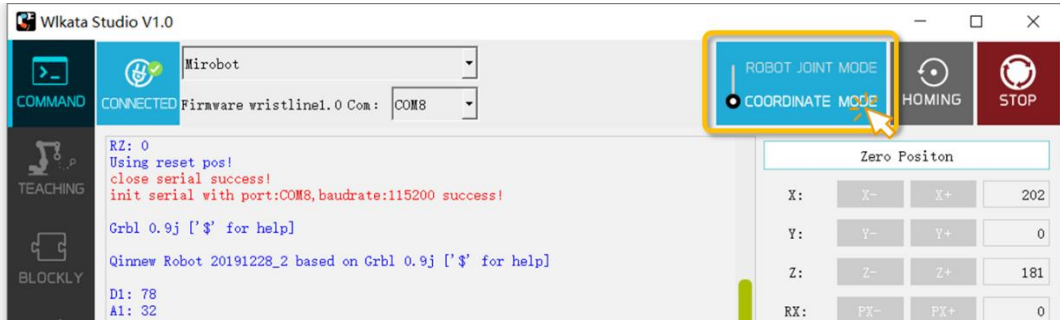

Figure 3.20 Selecting the COORDINATE MODE
(2) Switch to COORDINATE MODE in the control modes selection panel, as shown in Figure 3.20.